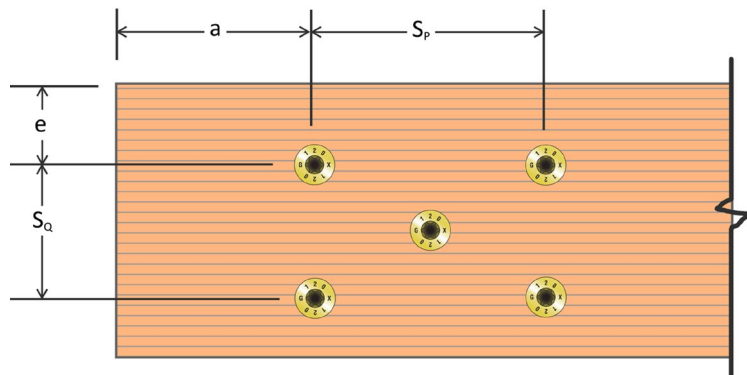

Figure 2 – Minimum Spacing, End and Edge Distance Requirements
7. See Figure 2 for additional information